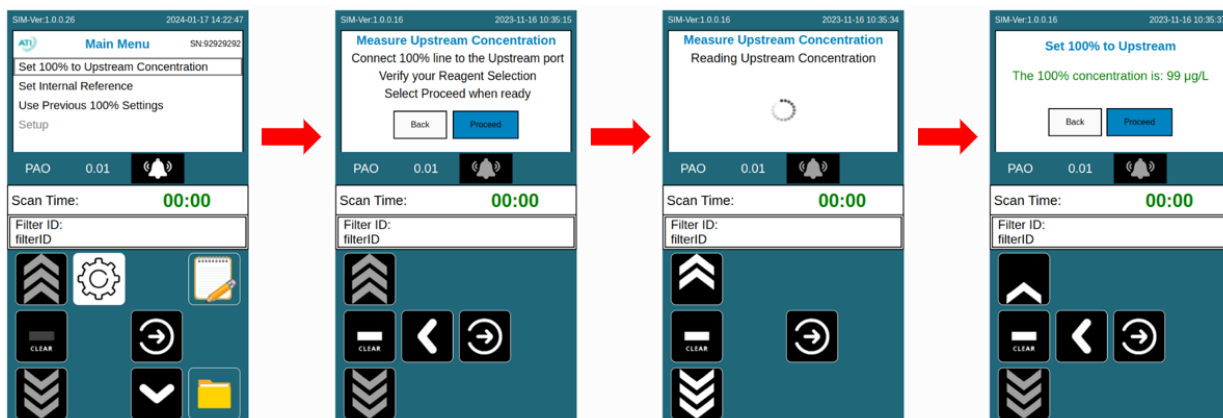

Figure 2. Set 100% Upstream concentration
**Step 1.** Use Arrow keys to navigate to the desired Upstream selection option (Figure 2 - Figure 4).